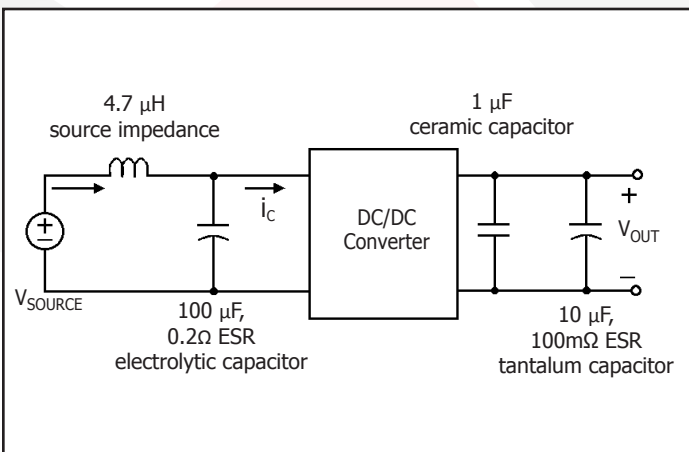

Figure 17: Test set-up diagram showing measurement points for Input Terminal Ripple Current (Figure 9) and Output Voltage Ripple (Figure 10).
**Figure 9:** Input terminal current ripple,  $i_C$ , at full rated output current and nominal input voltage with SynQor MCOTS filter module (200 mA/div). Bandwidth: 20MHz. See Figure 17.
**Figure 10:** Output voltage ripple, Vout, at nominal input voltage and rated load current (20 mV/div). Load capacitance: 1µF ceramic capacitor and 10µF tantalum capacitor. Bandwidth: 10 MHz. See Figure 17.